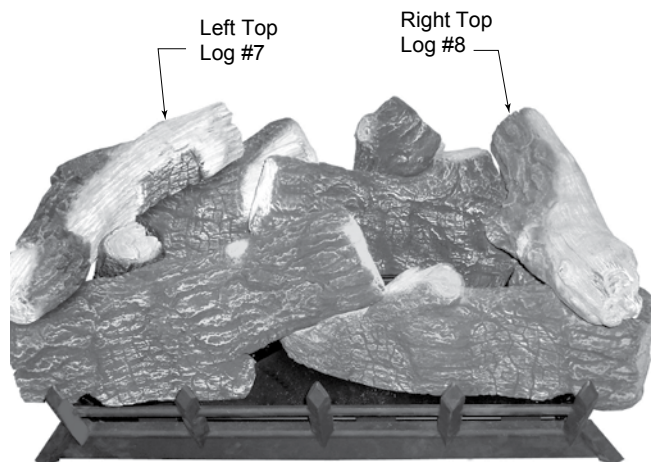

Figure 6.10 - Log #8 Placement
- Place right top log (#8) onto right rear (#3) and right front (#2) logs using locator on bottom of right top log. See Figure 6.10.